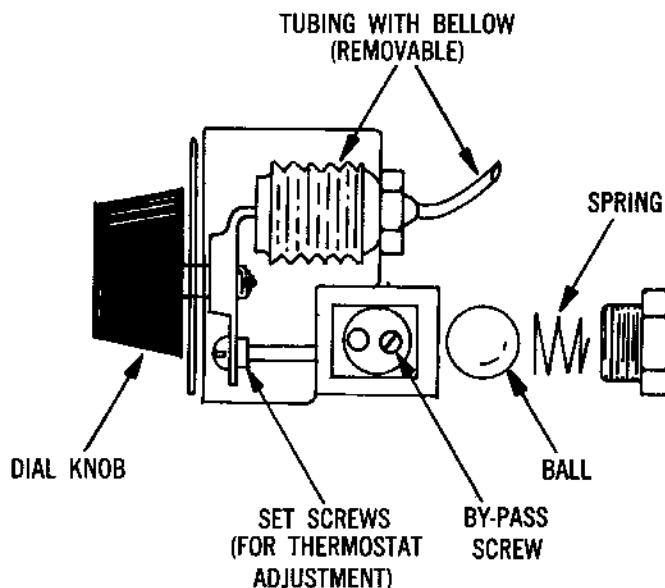

FIGURE 8-C
- (1) Unscrew the large cap screw at the rear of the thermostat and remove the ball. Clean seat and ball and replace.
- (2) If procedure (1) does not correct the problem, remove the dial knob with the dial plate and turn the exposed set screw out (in counter clockwise direction) until the flame goes down to the by-pass. See figure 8-C.
- c. If the flame keeps going out when the dial is turned to (O) remove and clean the by-pass screw which is located inside the gas connection on the left side of the thermostat.